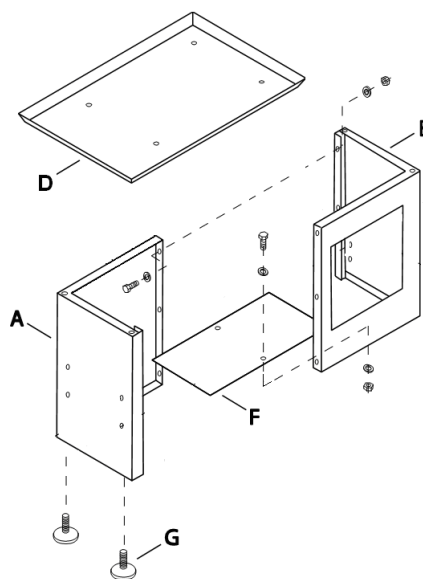

Fig 1
Assemble left (A) and right (B) side plates with 6 hex cap screws, washers and nuts.(Fig1)